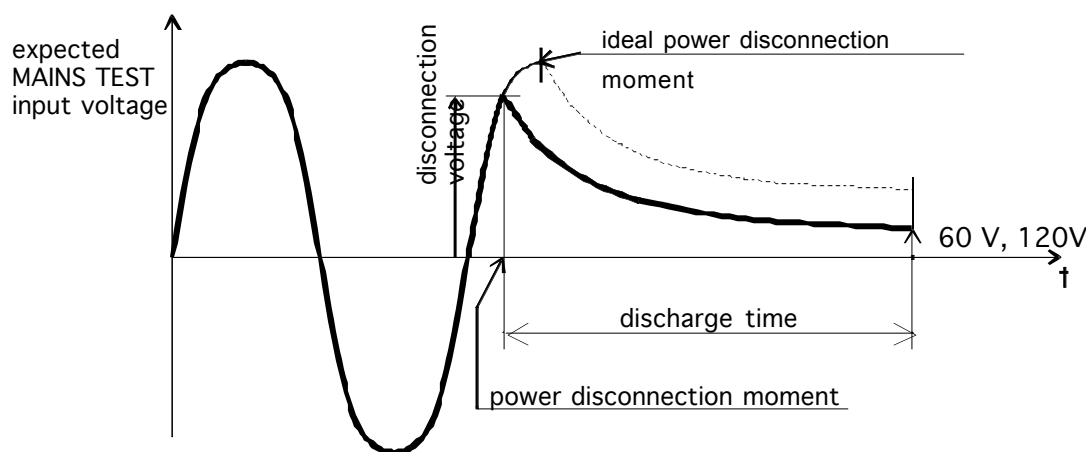

Fig. 25. Voltage on MAINS TEST input
STEP 6. Pull out double connection element and wait for the result to be displayed. If the disconnection voltage is high enough to carry out a measurement, (see fig. 25) **Start** message is displayed and the measurement will be performed. If the voltage is not high enough then the result of 0.0 s and **Repeat** message are displayed. In this instance repeat measurement from STEP 3. If the result 0.0 s and **Repeat** message reappears repeat measurement 5 to 10 times successively. The result 0.0 s it can then be accepted as valid. **Timeout** is displayed if the double connection element is not pulled out in 10 s, or discharging time is higher than 10 s.